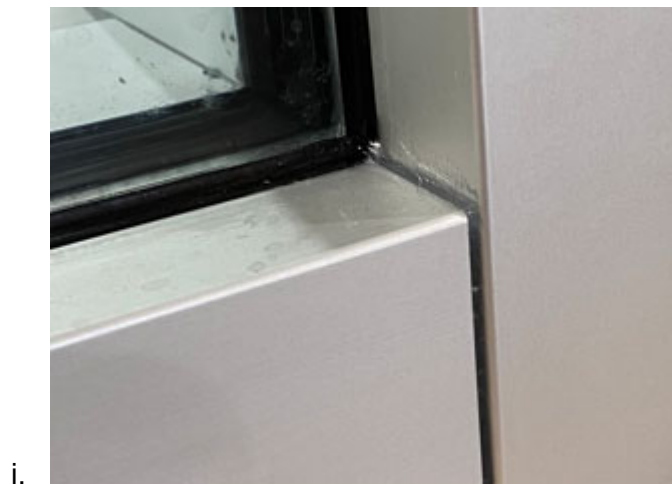

Figure 16
- a. For exterior applications, apply clear silicone at corners where gaskets meet and fill gap between vertical and horizontal snap on covers. Clean/wipe off excess. See Figure 16